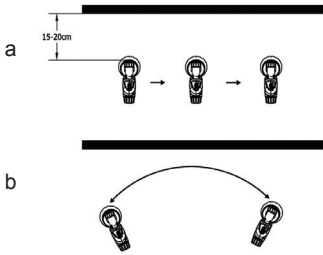

Fig.2
- When coating material builds up on the nozzle (A) and air cap (B) (Fig.2), clean both parts with a solvent or water.